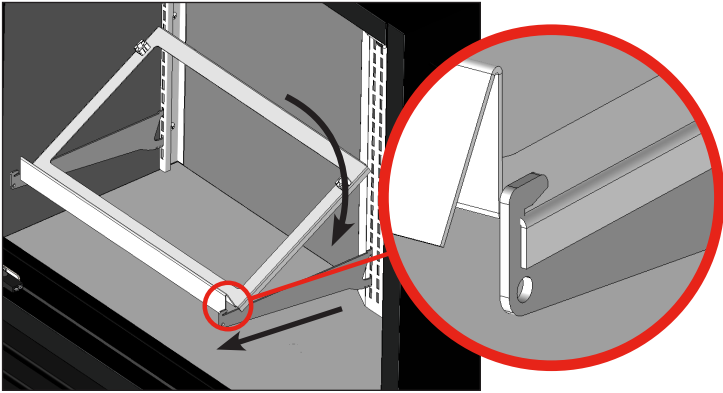

Fig. 15. Position the shelf while lifting the back of the shelf. Be sure the sides of the shelf hang over the bracket.
5. Lift the back of the shelf support up. Position the shelf support over the shelf support brackets. See fig. 15.
6. Carefully lower the back of the shelf support and slide the shelf under the shelf support tab. See fig. 15.